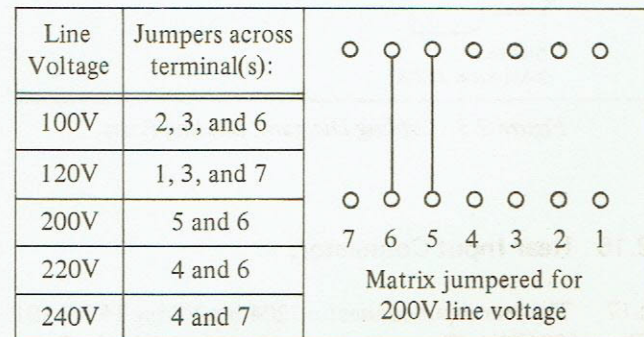

Figure 2.2 - Line Voltage Jumpers - Export Models Only
2.9 Power requirements for domestic units are 115V \pm 10%, 50 to 400 Hz. Power consumption is 40 watts maximum. Instruments for export, designated as Models 4800E, are equipped with a special transformer with an attached jumper matrix. The matrix has numbered pairs of terminals that are jumpered according to the line voltage (figure 2.2).